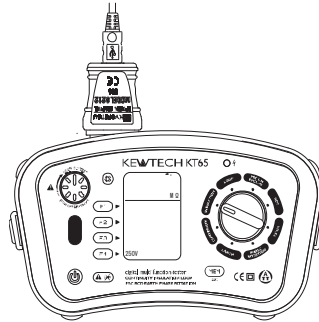

Fig. 52
(1) Connect Model8212USB to the USB Port of a PC. (Special driver for Model8212USB should be installed. See the instruction manual for Model8212USB for further details.)
(2) Insert Model8212USB into the KT65 as shown in Fig 52.